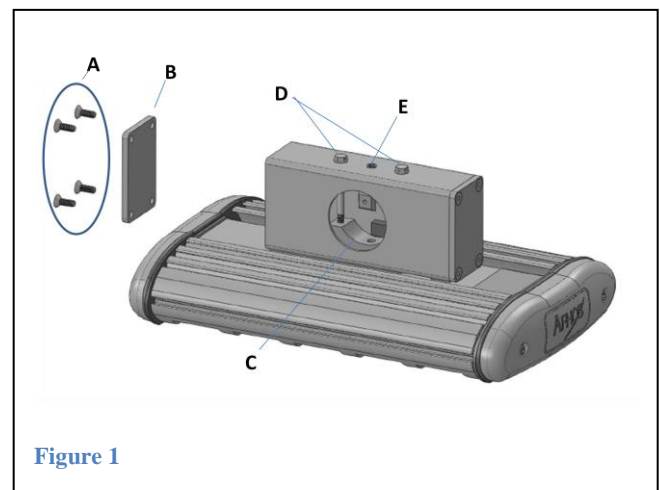

Figure 1
- Locate and remove the four 1/4-20 x 3/4" flat head screws (A) from the access plate (B) using a 5/32" Allen drive. Locate clamp (C) inside the mounting box and ensure that the bolts (D) are threaded through mounting box and into the clamp. (See Figure 1)